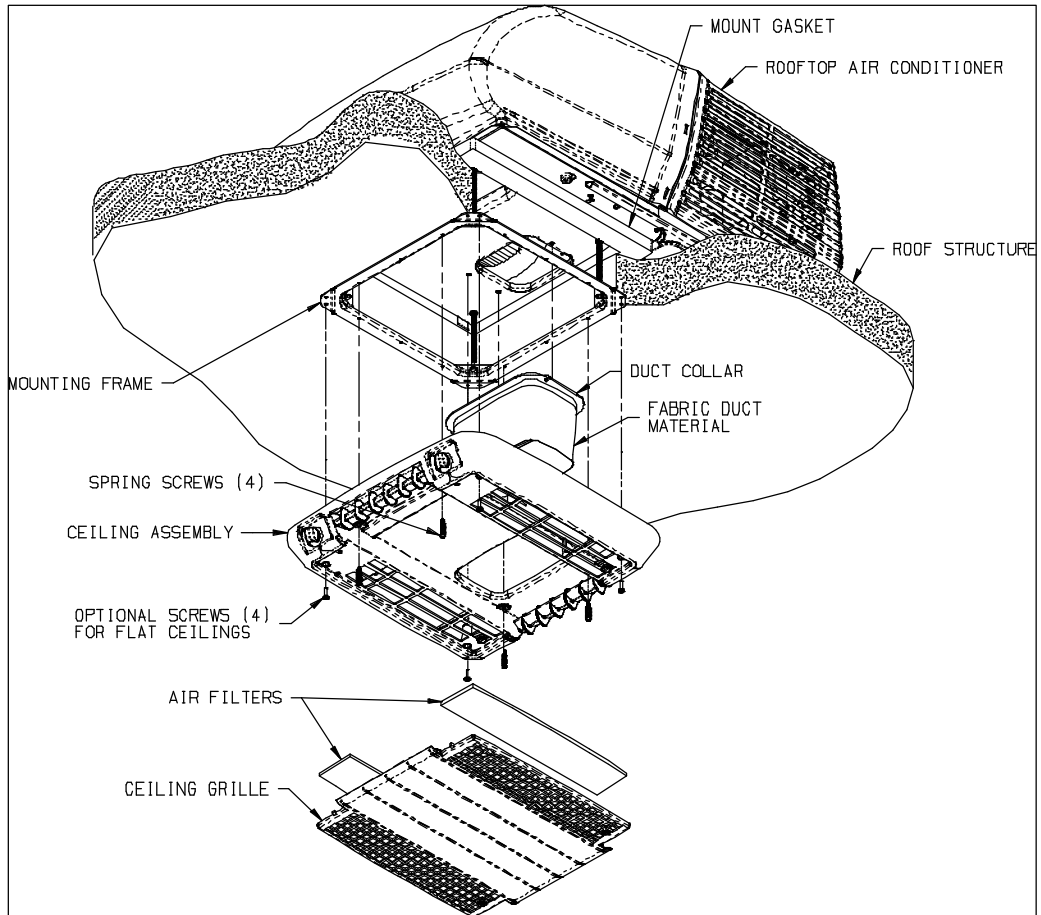

FIGURE 14
- D. Fasten the duct collar to the basepan of the heat pump with three (3) screws (See Figure 14).
- I. Raise the ceiling assembly and secure to the mounting frame with 4 provided shoulder screw/spring assemblies. The front two screws should pass through the clearance holes in the metal control box shield (See Figure 14).